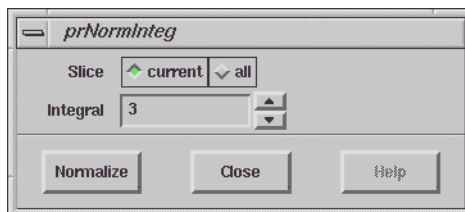

Figure 6-44 Selecting an integral to apply normalization.
10. **Normalization to one of the integrals.** Quite often, the relative ratios of the integrals is important in the data analysis. (E.g. hyperfine patterns and quality of a spectrum.) You can normalize the integrals with respect to one of the integrals to obtain these relative ratios. Click **Select Integral** and then **Normalize Result** A dialog box appears allowing you to select the integral for normalization. (See Figure 6-44.) Click the up or down arrow to select the integral. Click the **Normalize** button in the dialog box. All the integrals will be normalized with respect to the integral you select.